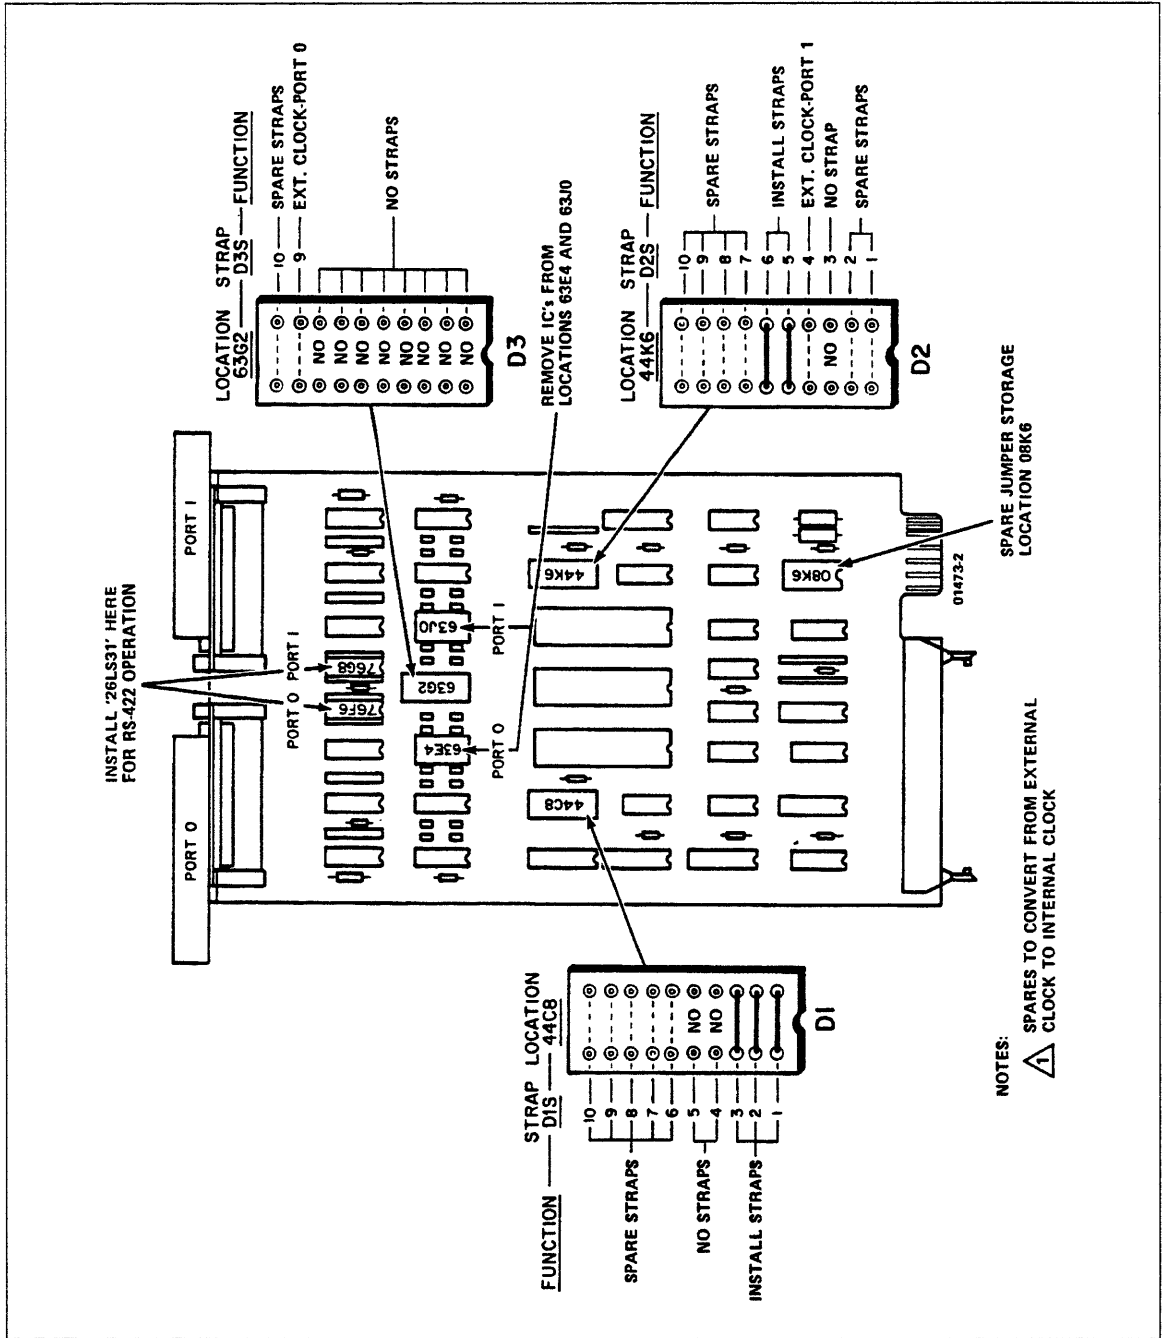

Figure 3-29. Configuring DY230-A LIM for RS-422 Operation
The DY230-A is an RS-449 LIM that can be set up for either RS-422 or RS-423 operation. This procedure describes how to set it up as an RS-422. The next procedure describes how to set it up as an RS-423. Figure 3-29 shows RS-422 jumper and IC placement.
5. Check the following jumpers to ensure that they are connected correctly. If they are not, use a needle-nose pliers or similar tool to make the proper connections (figure 3-29).